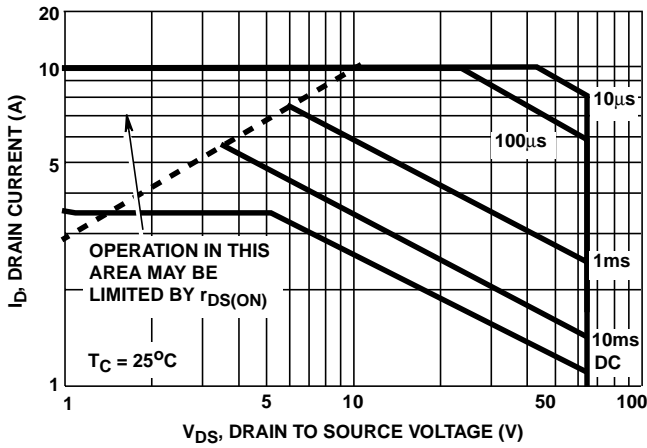

FIGURE 1. SAFE-OPERATING AREA CURVE
3.  $V_{DD} = 25\text{V}$ , Start  $T_J = 25^\circ\text{C}$ ,  $L = 15\text{mH}$ ,  $R_{GS} = 50\Omega$ ,  $I_{PEAK} = 3.5\text{A}$ . See Figures 1, 2, 12, and 13.